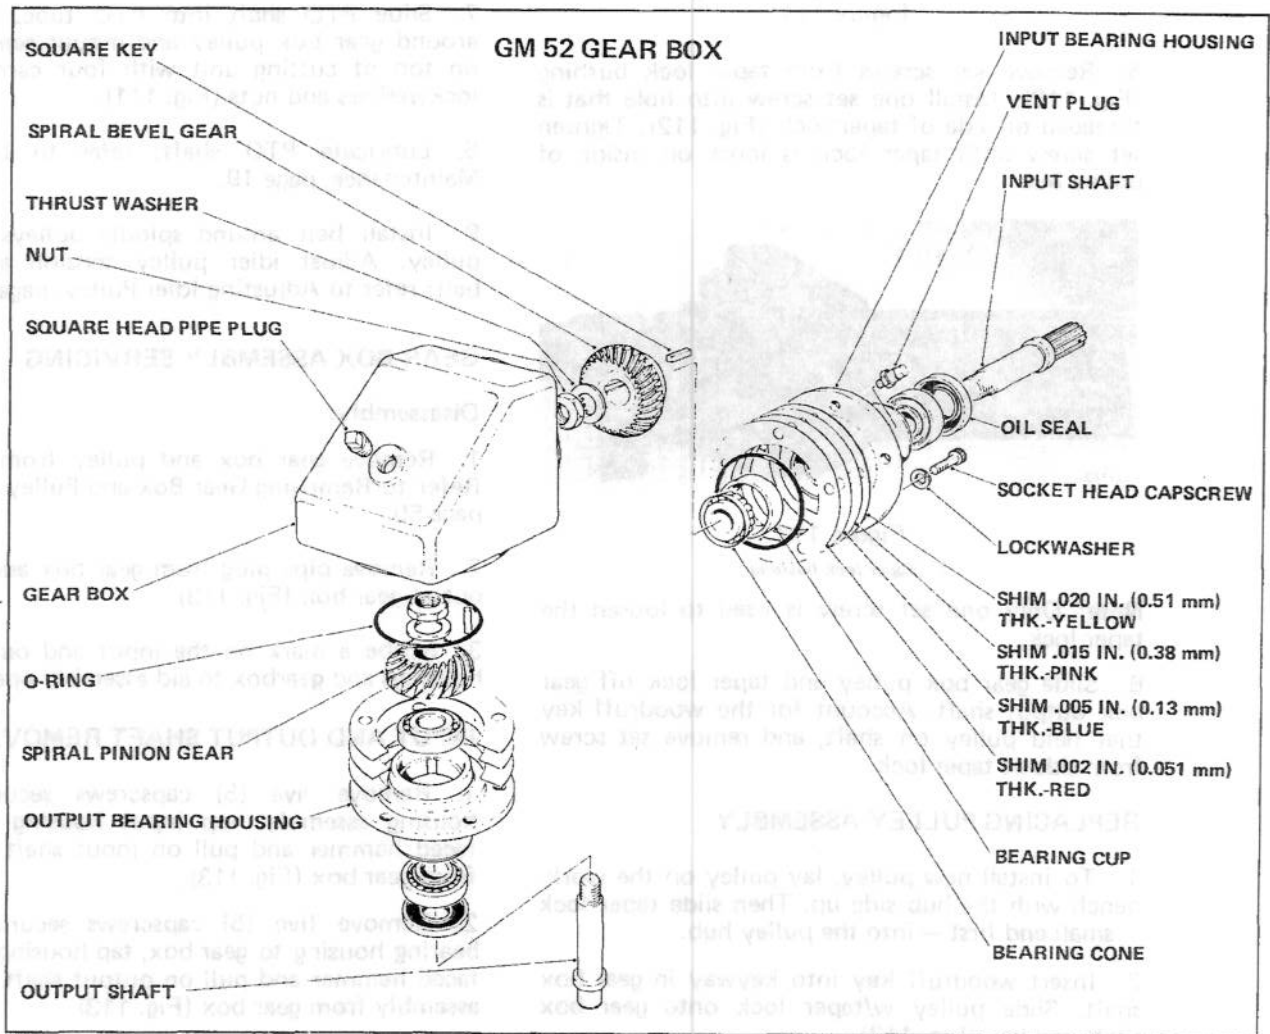

Figure 113
2. Remove pipe plug from gear box and drain oil out of gear box (Fig. 113).
1. Remove five (5) capscrews securing input housing assembly; tap input housing with soft-faced hammer and pull on input shaft to remove from gear box (Fig. 113).
2. Remove five (5) capscrews securing output bearing housing to gear box, tap housing with soft-faced hammer and pull on output shaft to remove assembly from gear box (Fig. 113).
4. Use a bearing separator to remove gear from shaft. Remove square key (Fig. 113).
5. Support mount flange of input housing in arbor press and press shaft, threaded end up, out of housing (Fig. 113).
7. Use steps 3 through 6 to disassemble the output shaft assembly (Fig. 113).
8. Discard and replace the shaft, nut, shaft seal and housing O-ring for both assemblies (Fig. 113). Discard and replace all worn and damaged parts.
1. Press bearing cups into bearing housing with small I.D. of cups toward inside of housing (Fig. 113).
3. Press on the remaining bearing cone. Install square key and press on gear. Use Loc-tite 242 or 601 on shaft and gear. Install thrust washer and nut (Fig. 113).
5. Apply No. 2 Permatex to outer surface of seal, apply oil to seal lips and press new seal into housing with seal lips facing inward (Fig. 113).
1. Install shims on housing (Fig. 113).
2. Oil O-rings, install on housing (Fig. 113) and insert both shaft assemblies into gear box (Fig. 113).